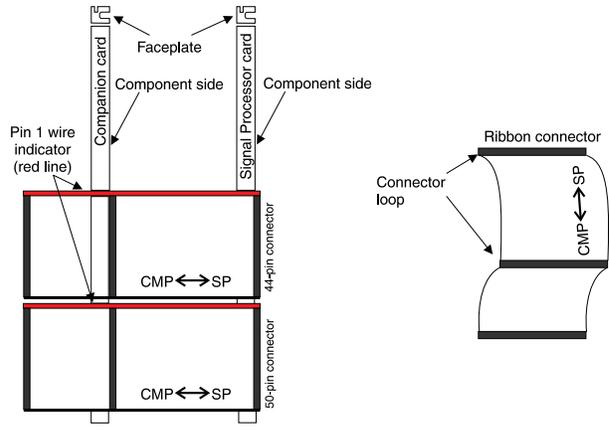
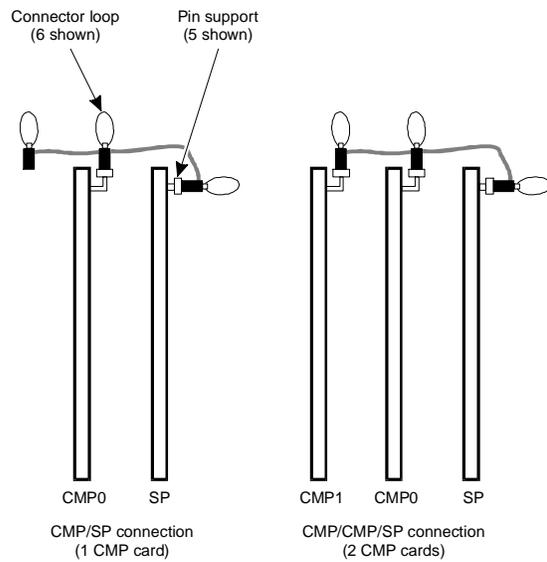

Figure 7-12. Top View of Signal Processor/Companion Bus Cables
Figure 7-13. End View of Signal Processor/Companion Bus Cables
- The ribbon cables that connect the SP and CMP cards are polarized. Figure 7-12 and Figure 7-13 show how they are oriented with respect to the SP and CMP cards.
5. Push with uniform force across the width of the loop to install the connector. One ribbon is a 50-pin conductor cable. The other is a 44-conductor cable. See Figure 7-12 and Figure 7-13 for the proper cable and card configuration.